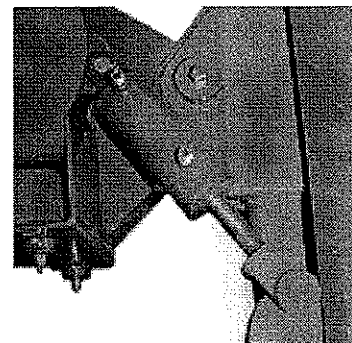

figure 9
3. Attach the swing cylinder with the rod end on the brush frame and the barrel end to the tab on the lift/swing assembly (figure 9). Secure using clevis pins packaged with the cylinder.